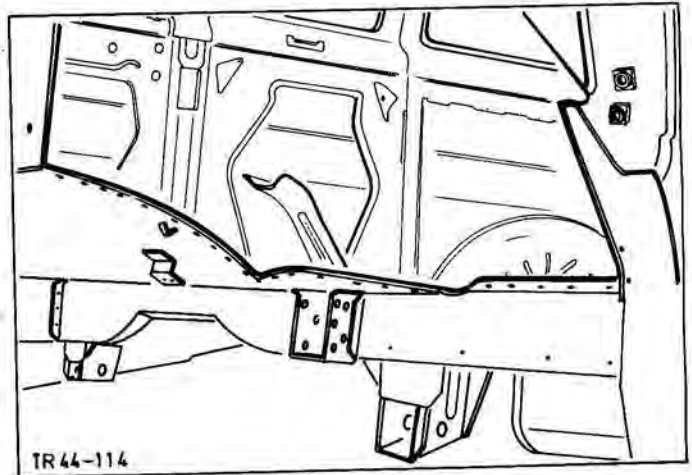

Fig.86. Side member cut out.
3. Cut side member at marked spot with grinding machine and on apron panel and floor panel with pneumatic chisel, Fig.86.